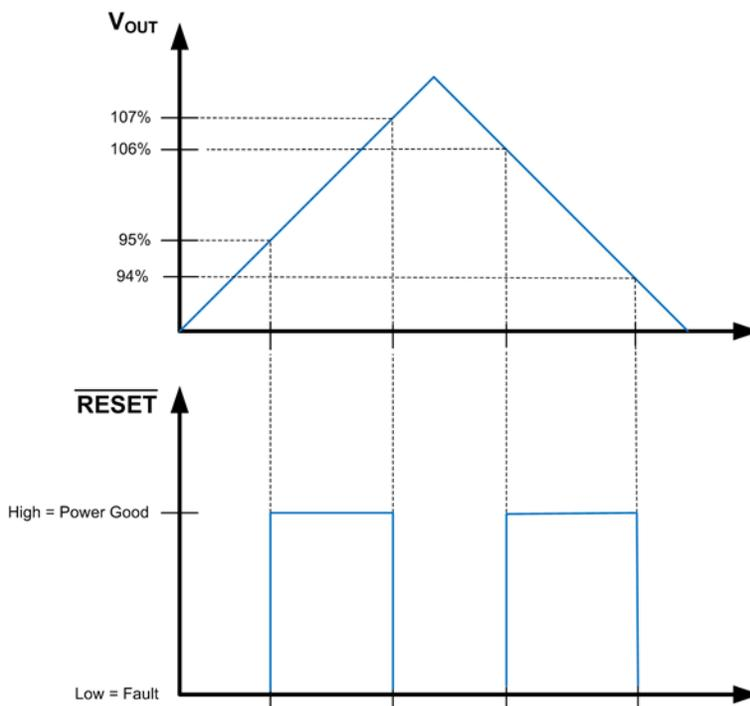
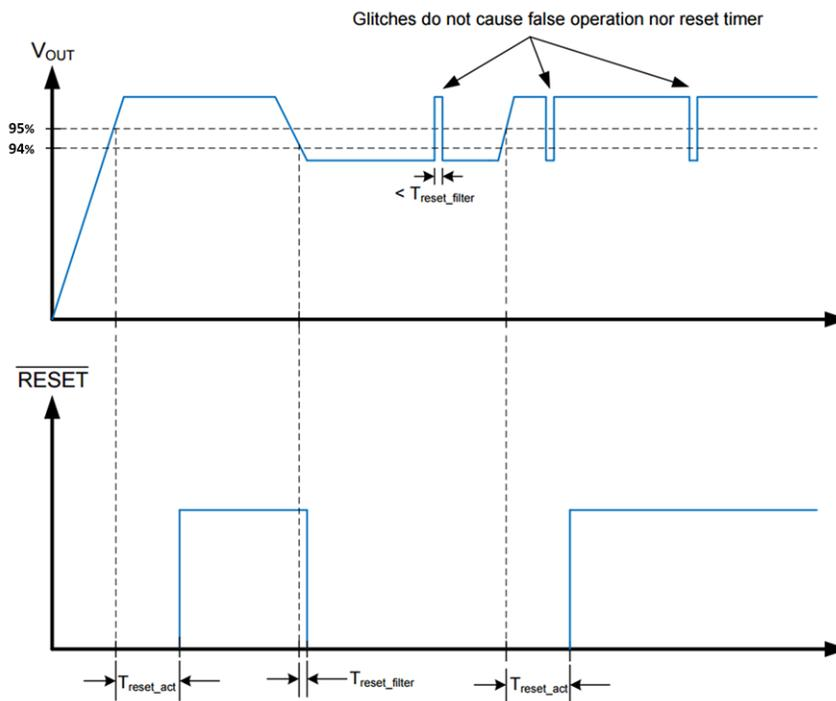
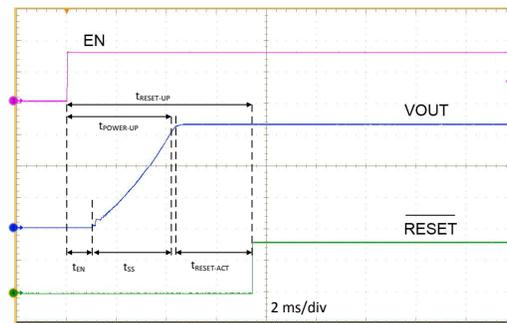

Figure 10. Static RESET Operation
Figure 11. RESET Timing Behavior
Figure 12. Typical Start-Up Waveform
- A delay has been added between the point at which the output voltage is within specified limits and the flag asserts Power Good. A glitch filter prevents false flag operation for short excursions in the output voltage, such as during line and load transients. See Figure 11 and Figure 12 for more detail.
Because the  $\overline{\text{RESET}}$  comparator and the regulation loop share the same reference, the thresholds track with the output voltage. When EN is pulled low, the  $\overline{\text{RESET}}$  flag output is forced low. When the device is disabled,  $\overline{\text{RESET}}$  remains valid as long as the input voltage is  $\geq 1.5$  V.  $\overline{\text{RESET}}$  operation can best be understood by reference to Figure 10 and Figure 11. Output voltage excursions lasting less than  $T_{\text{RESET-filter}}$  do not trip  $\overline{\text{RESET}}$ . Once the output voltage is within the prescribed limits, a delay of  $T_{\text{RESET-act}}$  is imposed before  $\overline{\text{RESET}}$  goes high. This enables tighter tolerance than is possible with an external supervisor device while also expanding the system allowance for transient response without the need for extremely accurate internal circuitry.
A typical start-up waveform is shown in Figure 12 along with timing definitions. This waveform indicates the sequence and timing between the enable input, output voltage, and  $\overline{\text{RESET}}$ . From the figure, the user can define several different start-up times depending on what is relevant to the application. Table 2 lists the timing definitions and typical values.